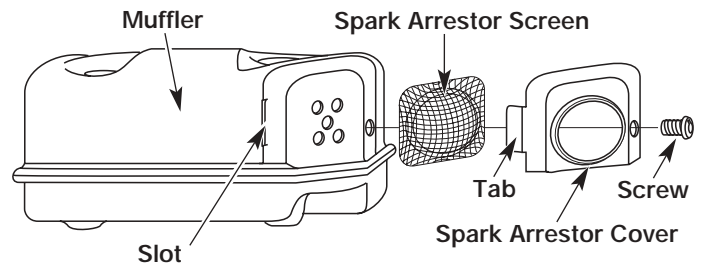

Fig. 30
2. With a flat blade screwdriver or Torx T-20 bit, remove the screw attaching the spark arrestor cover to the muffler (Fig. 30).